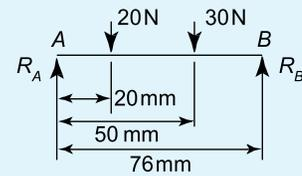

Figure 5.8
- Determine the values of the forces acting at A and B for the force system shown in Figure 5.8.